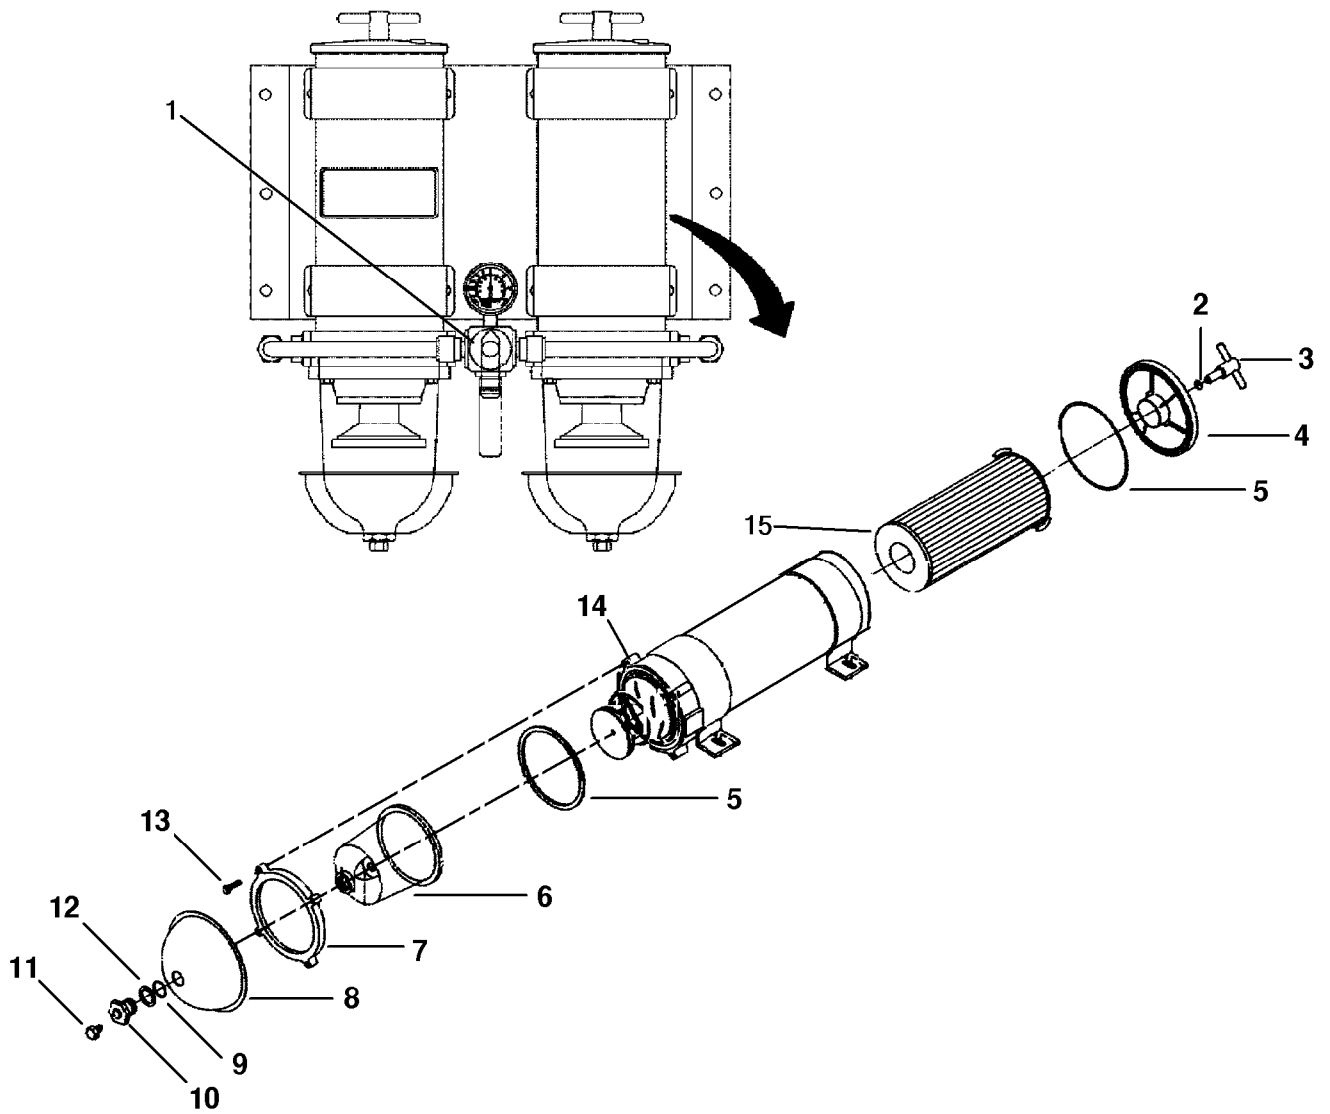

FIGURE 2-23B. Fuel Filter/Water Separator.
2-29.2. Repair Fuel Filter/Water Separator. (FIGURE 2-23B)
- a. Position the three way valve assembly (1, FIGURE 2-23B) to isolate the fuel filter/water separator being repaired.
- b. Remove T-handle (3) and T-handle preformed packing (2) from access cover (4).
- c. Remove access cover (4) and gasket (5).
- d. Place a suitable container under catch basin; remove bowl plug (11) to drain fluid from fuel filter water separator.
- e. Grasp tabs on fluid filter element (15) and remove.
- f. Remove four machine screws (13), bowl ring (7), sediment bowl (6) and gasket (5) from base (14).
- g. Remove bowl drain fitting (10), bowl drain gasket (12), O-ring (9) and heat deflector (8) from sediment bowl (6).
Repair of the fuel filter/water separator is by replacement of O-ring (2, Figure 2-23B), gaskets (5), bowl plug (11), drain fitting (10), gasket (12), O-ring (9) and fluid filter element (15).
- a. Place bowl ring (7, Figure 2-23B) over sediment bowl (6).
- b. Install heat deflector (8), O-ring (9), and bowl drain gasket (12) onto sediment bowl (6); secure with bowl drain fitting (10).
- c. Place gasket (5) on sediment bowl assembly (6) and secure with four machine screws (13) to base (14).
- d. Install fluid filter element (15). Push firmly into place.
- f. Install T-handle preformed packing (2) and T-handle (3) into access cover (4).
- g. Lubricate gasket (5) with clean fuel; install gasket (5) and access cover (4)
- h. Rotate three way valve assembly (1) to desired position.